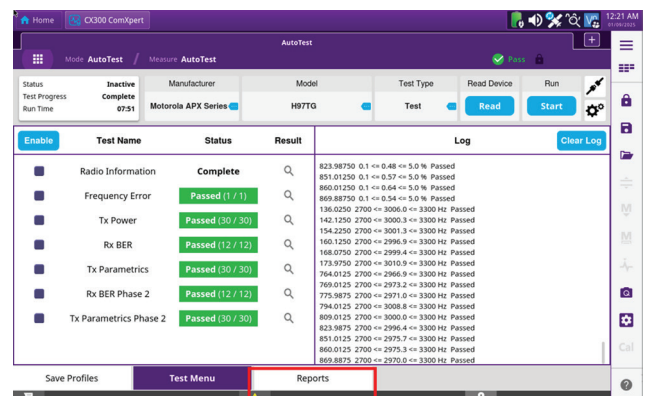

Figure 7
- Once the Test/Alignment is complete tap the **"Reports"** tab (Fig. 7) and highlight the Report and select **"View Report"**.